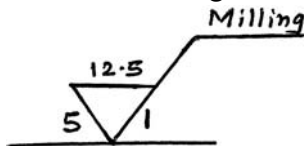

Fig. No. 01
- iii) State the meaning of the symbol shown in Fig. No. 01.